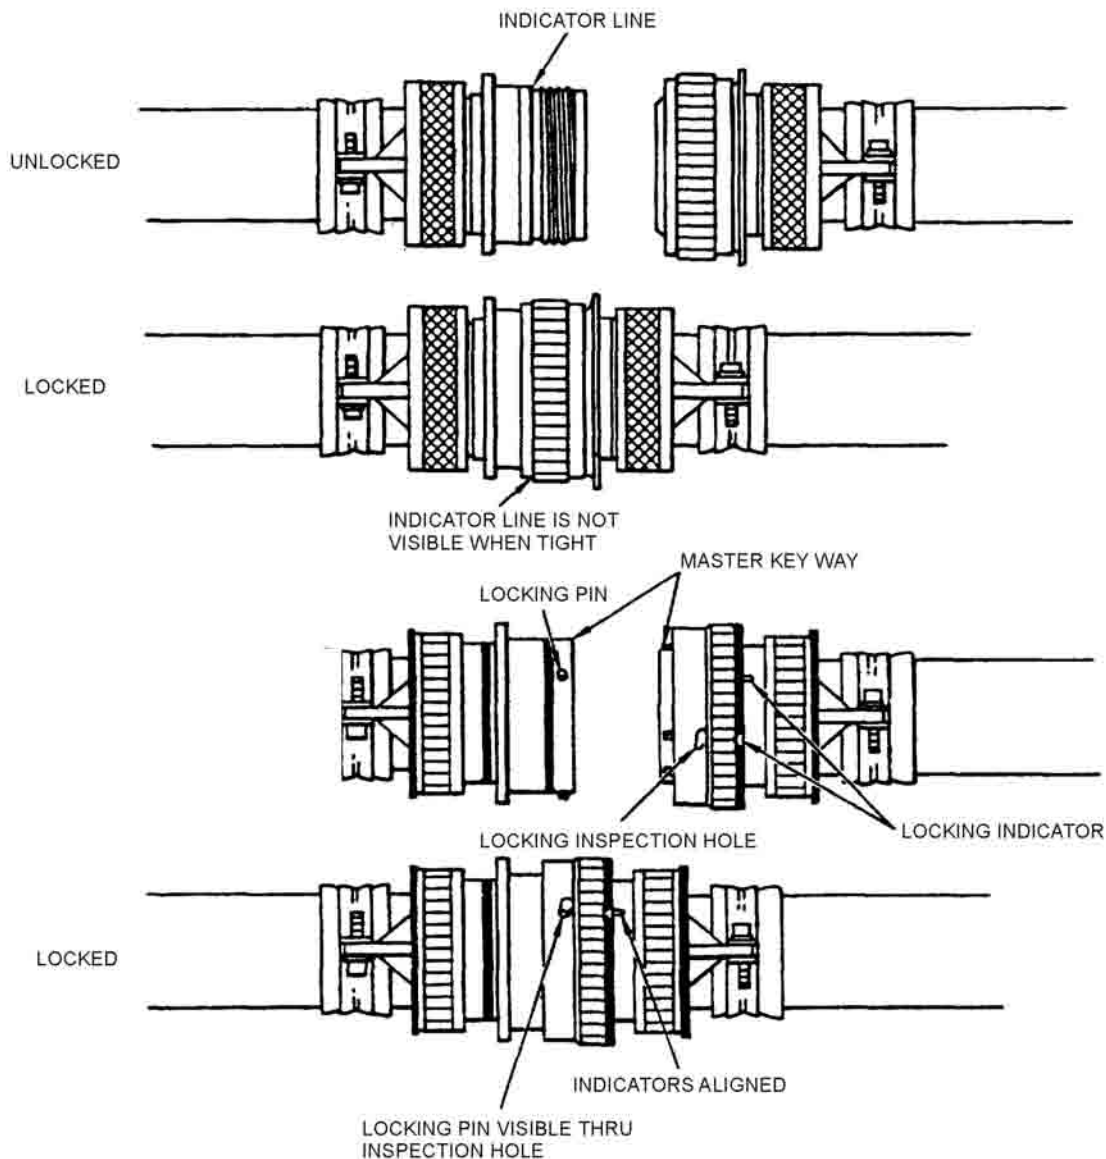

Figure 40. Mating or Coupling Connectors
- a. Locate the proper position of the plug in relation to the receptacle by aligning the key of one part with the groove or keyway of the other part. (Figure 40).